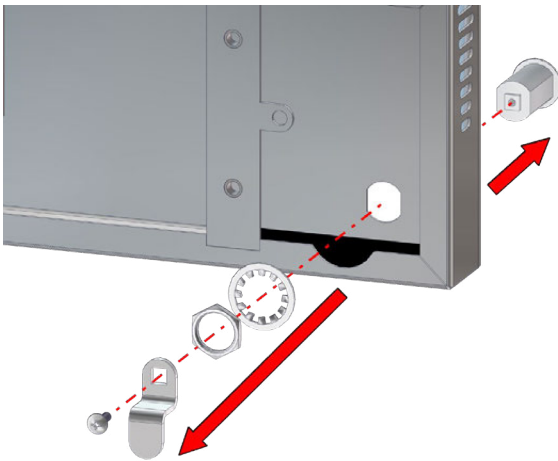

Fig. 39: Detach Cam Lock Assembly
- To detach the Cam Lock assembly, unscrew the Phillips head screw from the Cam Lock Latch (Fig. 39).